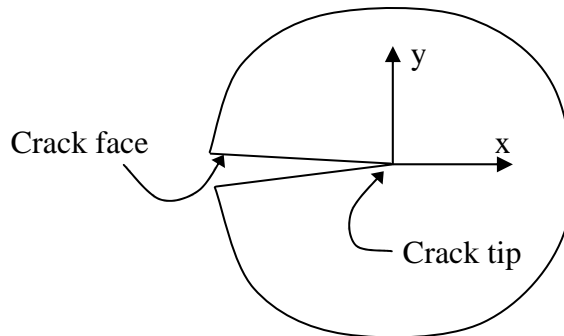

Figure 16: Local coordinate system at the crack tip.
1. Define a local crack-tip or crack-front coordinate system, with X parallel to the crack face (perpendicular to the crack front in 3-D models) and Y perpendicular to the crack face, as shown in the following Figure 16.